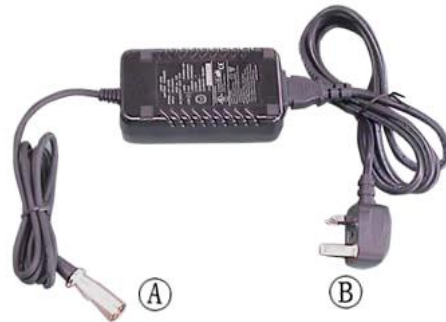

Figure 5-2. Charger
5. Connect the A end of the charger as shown in Figure 5-2 to the charging hole of the travel version scooter battery, and connect the B end of the charger to the 110 V or 220 V power interface. (220V power supply is used in China. If you want to use it in a 110V country, please call Wisking Company to change the plug type and charger type to ensure compliance with the power and safety standards of that country or region.).